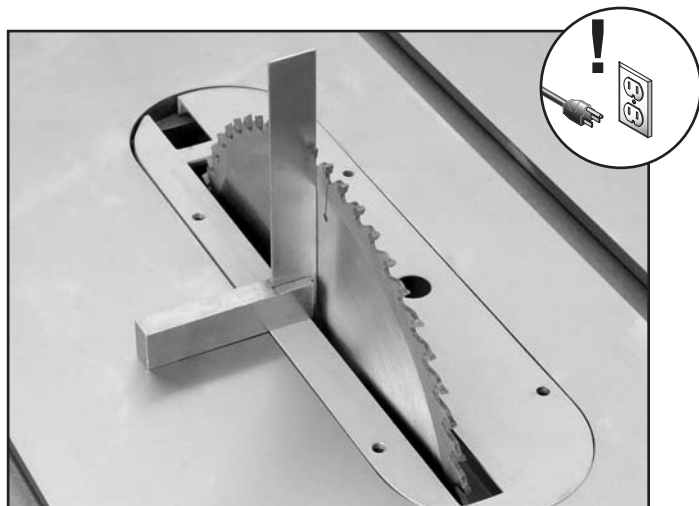

Figure 67. Checking blade angle to table.
4. Place a machinist's square between the teeth on the blade and on the table surface, as shown in **Figure 67**.